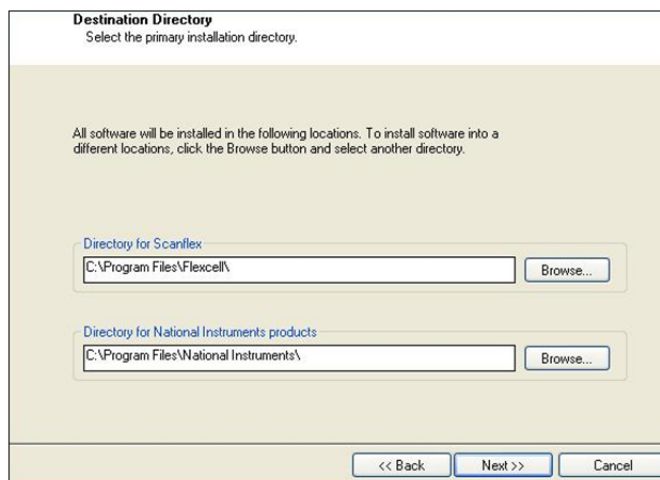

Figure 5. Selecting destination directory
- 3) Select the destination directory to save all program files (**Figure 5**) and click *NEXT* to continue.